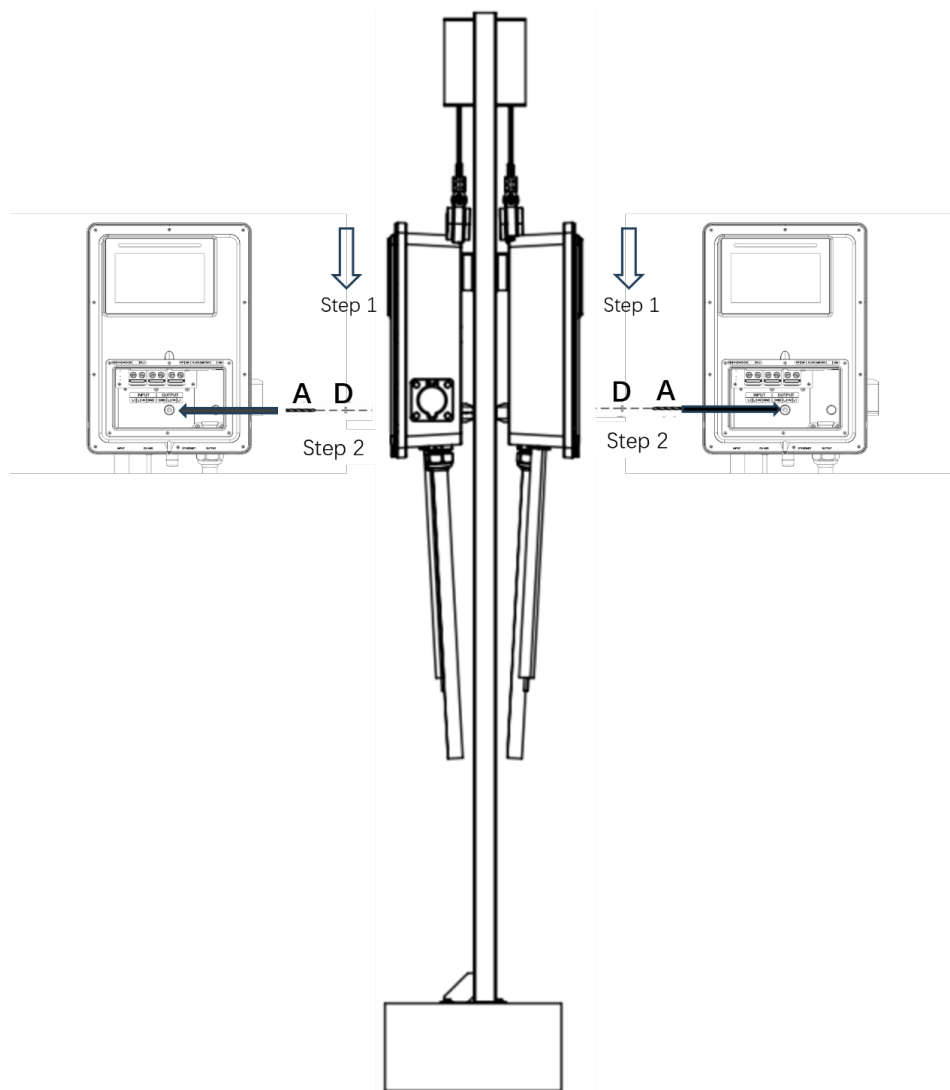

**Figure 4.8** Installing the Mounting Pole and Positioning Plate(s)
- 1) Drill 4 holes in the base or the pedestal where the pole is intended to be installed. Use the four M8x80 screws (pole-mounting **Accessory B**, see Table 3.3 on Page 14) to fix the pole to the ground (see left side of Figure 4.8).
- 2) Determine the side(s) where the charger(s) will be installed; locate the backplate of the corresponding side in the upper middle part of the pole (see Figure 4.8).
- 3) Use two M4x12 screws (pole-mounting **Accessory C**) to install the positioning plate (pole-mounting **Accessory A**) on the two upper screw holes of the backplate (see right side of **Figure 4.8**).